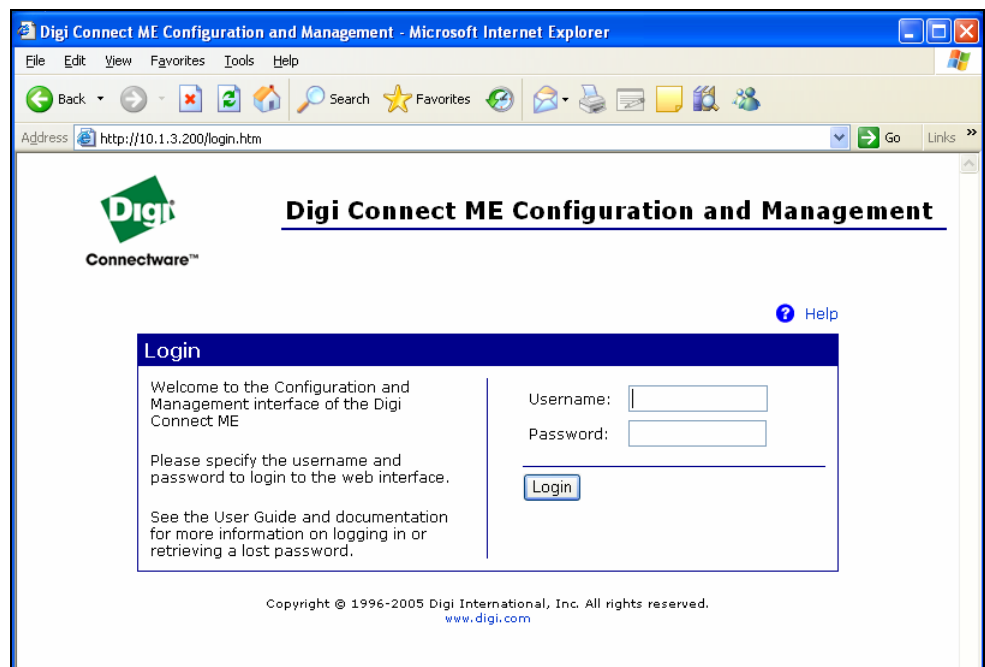

Figure 7-3
6. If the UCPC is in the same subnet as the computer, start the device discovery program **Discovery.exe** and click on **Open web interface**. The username and password are “**tsicpc**” as shown below in Figure 7-3. If the UCPC is not in the same subnet as the computer, type in the IP address in your web browser. Work with your network administrator to make sure the IP address is accessible from the network your computer is in.